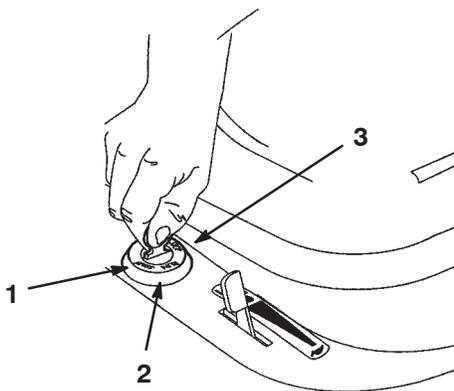

Figure 9
- Turn the ignition key clockwise and hold it in the Start position (Fig. 9). When the engine starts, release the key.
- Turn the ignition key to Stop (Fig. 9).